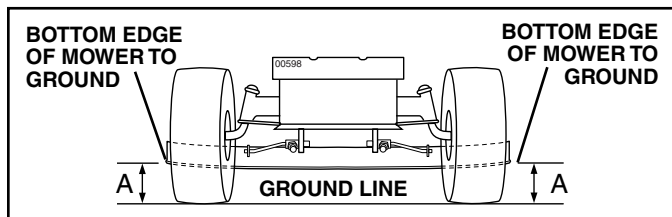

FIG. 14
**SIDE-TO-SIDE ADJUSTMENT** (See Figs. 14 and 15)